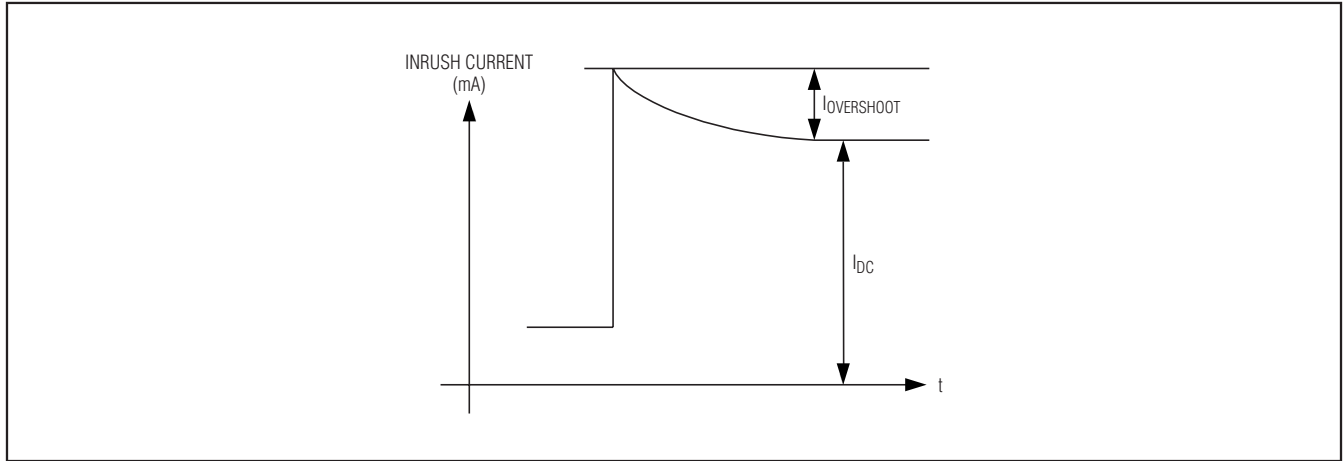

Figure 1. LVPECL Input Inrush Current
**Note 3:** For hot-pluggable purposes, the device can receive LVPECL inputs when no supply voltage is applied. Measured with  $V_{CC}$  pins connected to GND. See Figure 1.